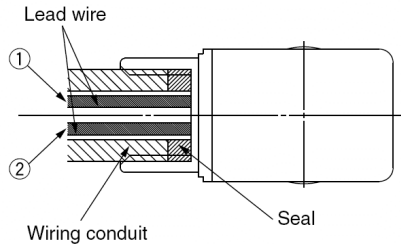

Figure 13
- Tighten conduit to torque shown in Figure 13.